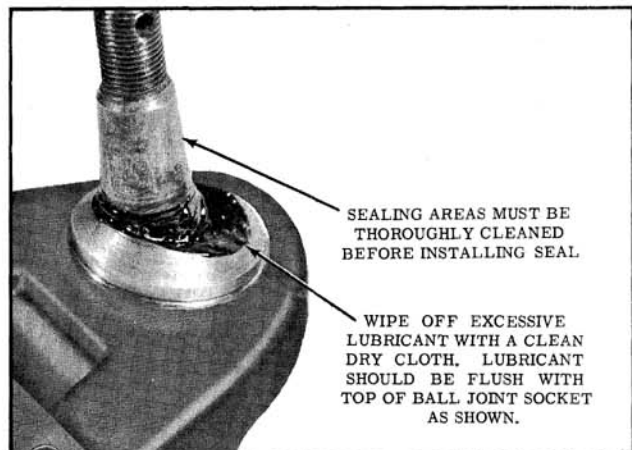

Fig. 9-24 Ball Joint Prior to Seal Installation
6. Lubricate ball joint with Multi-Purpose Chassis Lubricant until clean grease completely fills the ball joint reservoir. (Figs. 9-24 and 9-25)
7. Remove grease fitting and install plug in ball joint. Clean grease from ball joint stud and sealing area of joint with a clean dry cloth. (Fig. 9-24)